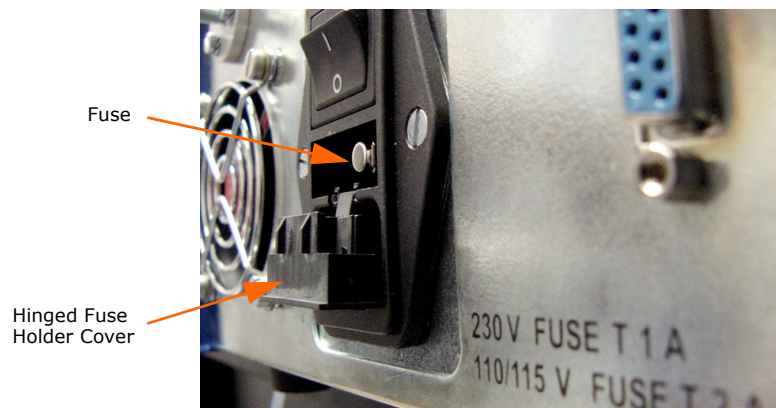

Figure 4-9. Hinged Fuse Holder Cover in the Open Position
3. Once the hinged fuse holder cover is loose, use your fingers to carefully pull it outward until it stops. See Figure 4-9: